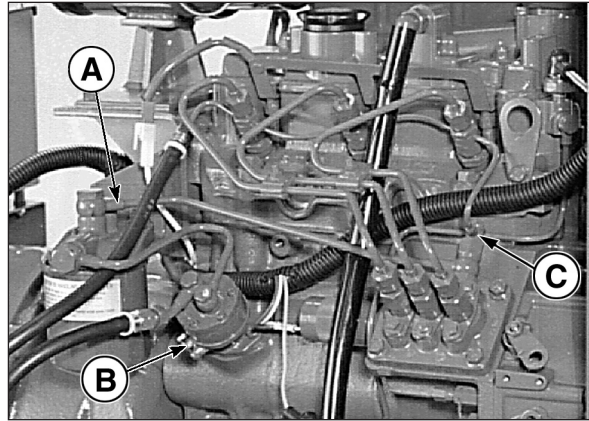

Figure 9: NL843NW3 Fuel System (for illustration purposes).
2. Loosen bleed bolt "A" (Figure 9) on top of the filter. Pump hand primer "B" on fuel lift pump until pure fuel (no bubbles) escapes from bleed bolt "A". Tighten bleed screw "A".